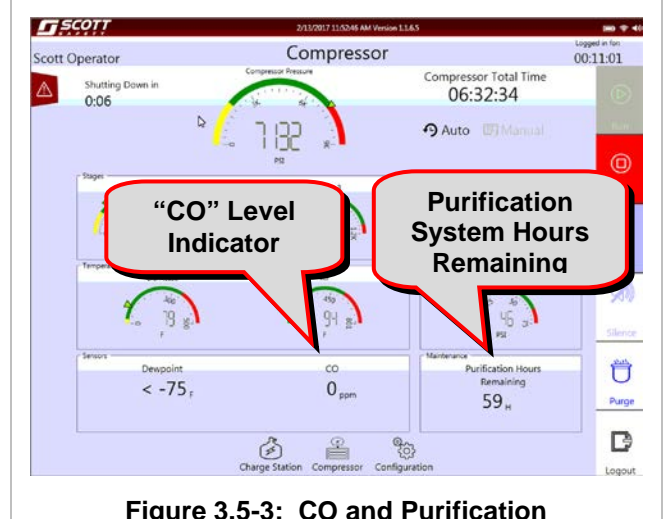

Figure 3.5-3: CO and Purification
The Carbon Monoxide (CO) level is displayed in Parts Per Million (PPM), and requires calibration every 90 days per NFPA 1989 and CGA G-7 1.6 See Figure 3.5-3. Refer to Section 5.4 for CO calibration Procedures.
5. The purification hours remaining display indicates the total time remaining until the next purification system service is due. The factory default is 75 hours. See Figure 3.5-3.